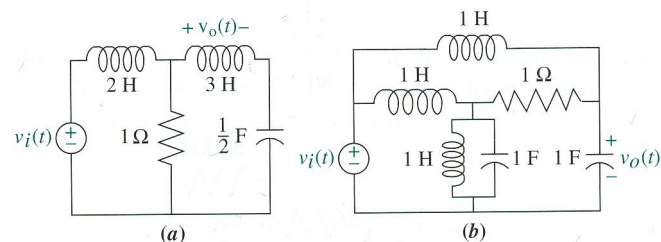

FIGURE P2.5
18. Find the transfer function,  $G(s) = V_o(s)/V_i(s)$ , for each network shown in Figure P2.5. Solve the problem using mesh analysis. [Section: 2.4]